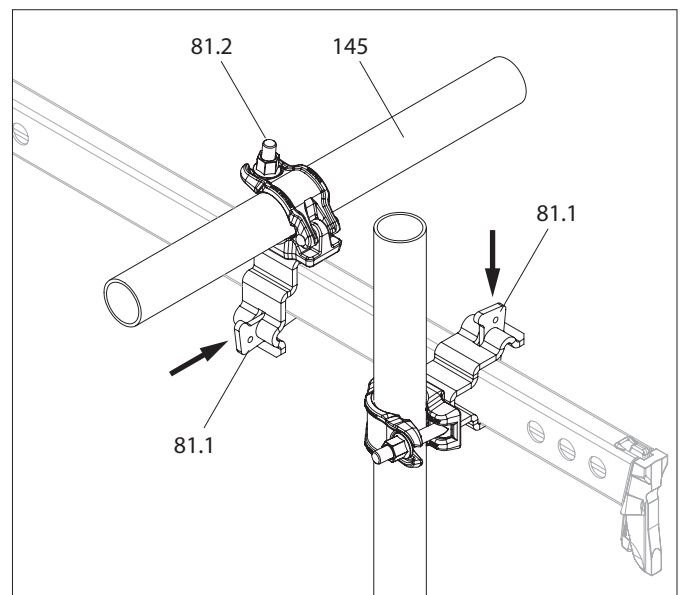

Fig. A10.03b
2. Insert the wedge into the clamping part and hammer it tight. (Fig. A10.03b)
3. Fit the scaffolding tube (145) in the tube coupling (81.2). (Fig. A10.03b)